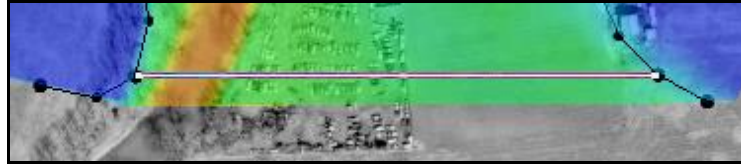

Figure 5 Downstream boundary arc
- Using the **Create Feature Arc**  tool, create the downstream boundary arc as shown in Figure 5.